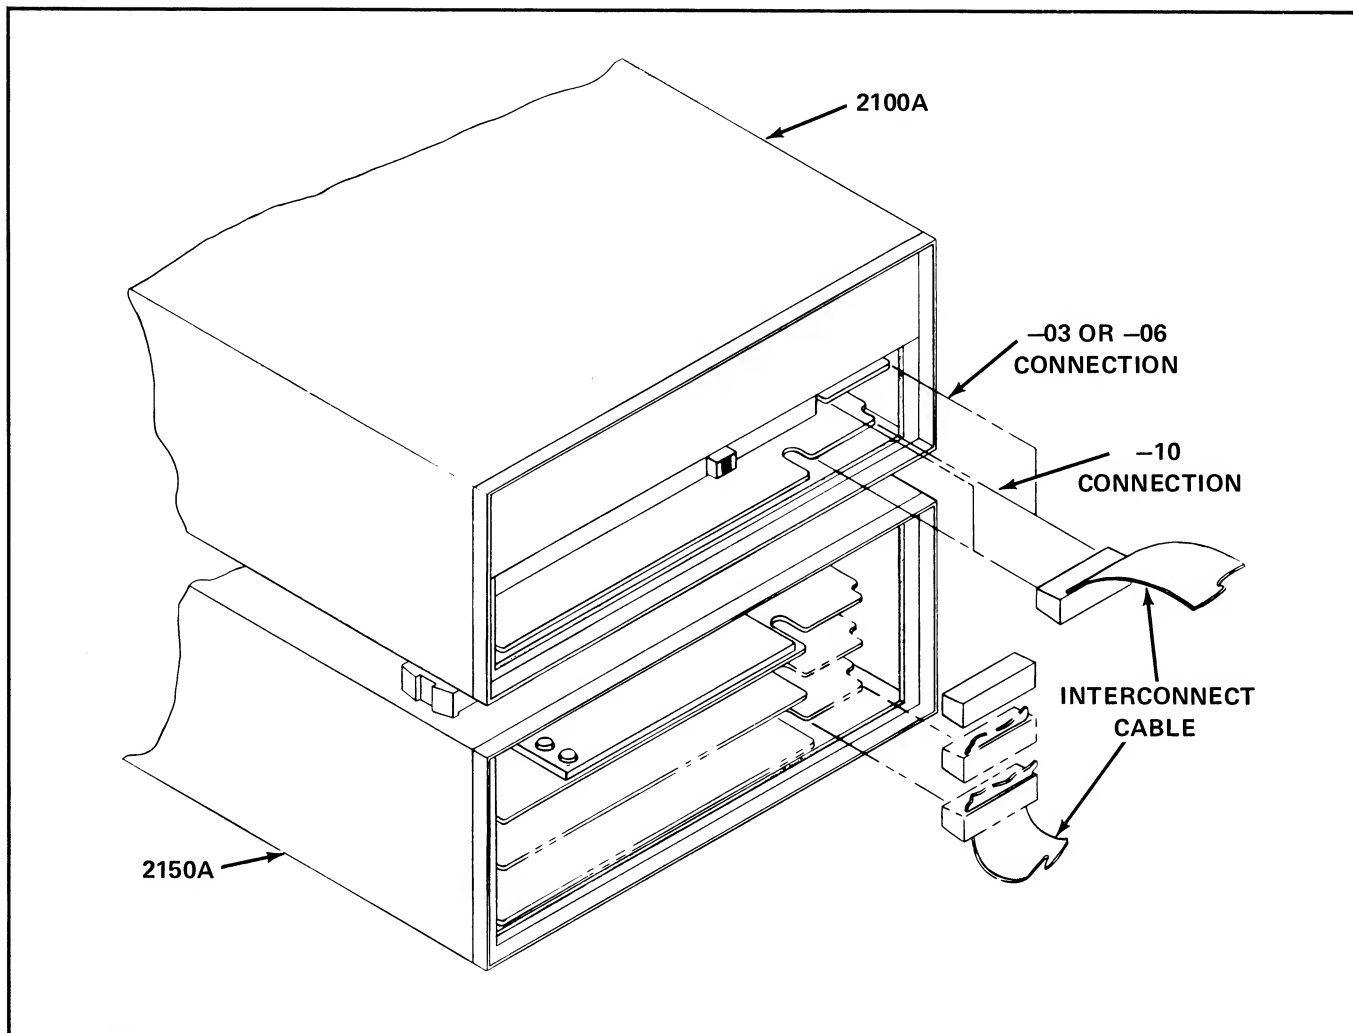

Figure 6-14. 2150A - 2100A INTERCONNECTION
- c. Connect the supplied interconnect cable to the 2150A board edge connector (s) as shown in Figure 6-14. (One connection for the 2150A-10, two for the 2150A-20, and three for the 2150A-30.)
- d. (1) (2100A-03 or 2100A-06)
Connect the other end of the interconnect cable to the board edge connector described as (-03 or -06 CONNECTION) in Figure 6-14.
Connect the other end of the interconnect cable to the board edge connector described as (-10 CONNECTION) in Figure 6-14.
- e. Replace the rear panels of the 2150A and 2100A in Figure 6-14.
- b. Connect one end of the interconnect cable to the board edge connectors (see Figure 6-14.) on one 2150A.